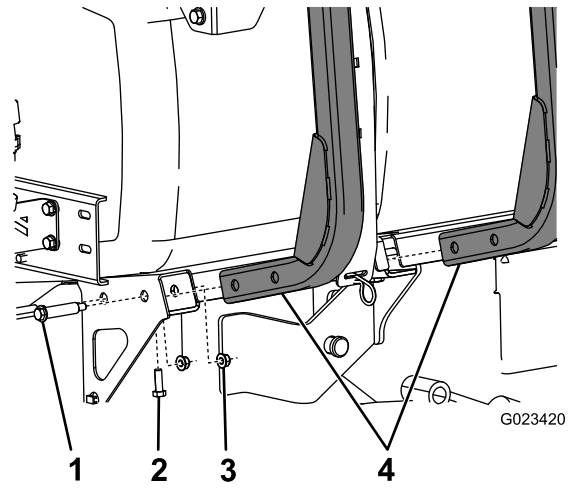

Figure 2
1. Mount the 2 hose-reel frames to the side of the machine using 4 shoulder bolts and 4 flange nuts (5/16 inch) as shown in Figure 2.
2. Secure the underside of the hose-reel frames to the machine using 2 bolts (5/16 inch) and 2 jam nuts (Figure 2).